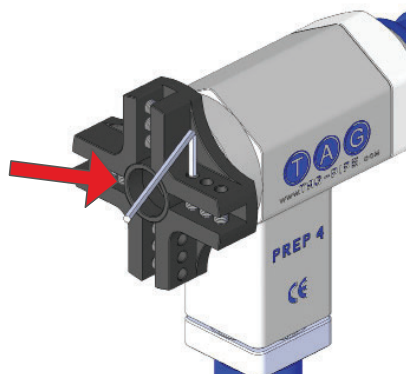

Figure 3-11 Bush removal
2. Remove the bush (indicated by the red arrow in Figure 3-11), and replace it with the new bush from the elbow kit.